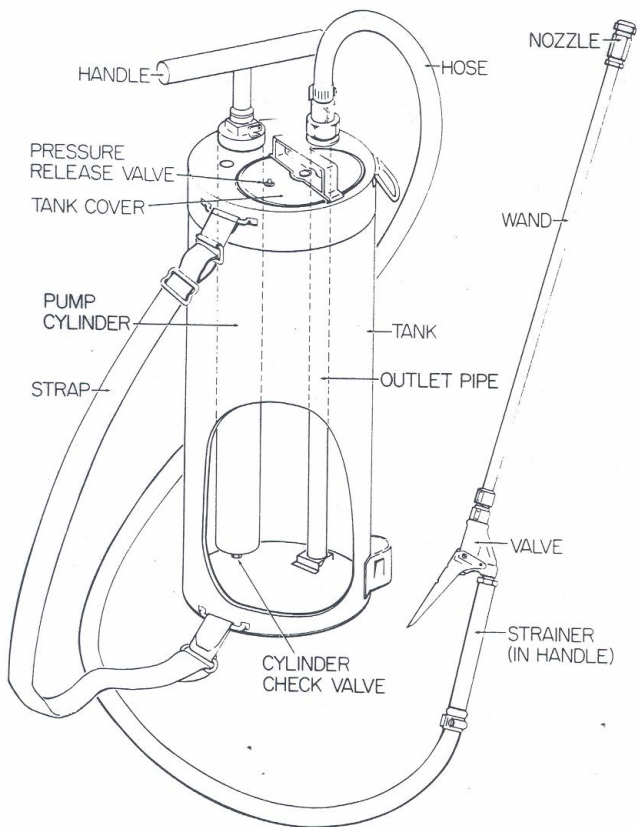

Figure 2. Compressed Air Sprayer
1. **Compressed air sprayer** -- for applying liquid larvicide such as GB-1111, Agnique, or liquid formulations of Abate, *Bti* or Altosid. The compressed air sprayer is comprised of a tank, air pump, outlet pipe, spray hose, and spray gun consisting of valve, wand and nozzle (See Figure 2). The tank, made of stainless steel, brass, plastic or galvanized steel, forms the body of the sprayer with a capacity usually ranging from 0.5 to 3 gallons and serves as the reservoir for the spray mixture. The space above the spray mixture is pressurized by a hand pump in manually operated units. The pump cylinder ordinarily is fitted to the head of the spray tank with rubber gaskets and has a check valve at the bottom that permits air to be pumped into the sprayer, but prevents air or liquid from being forced back into the pump barrel. The air pressure forces the spray mixture through an outlet pipe to the spray hose.